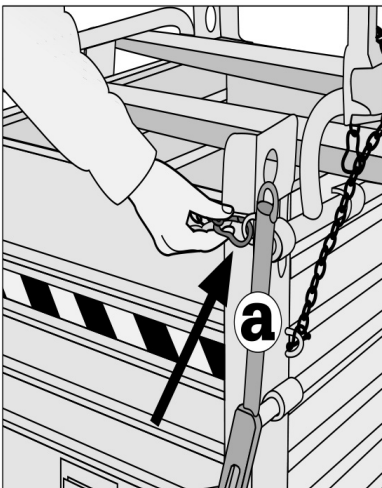

Fig.6.2.15
- 6.2.16 Place the safety ring back on the lever (**a**) for releasing the bottoms (**fig. 6.2.15 - fig. 6.2.16**).